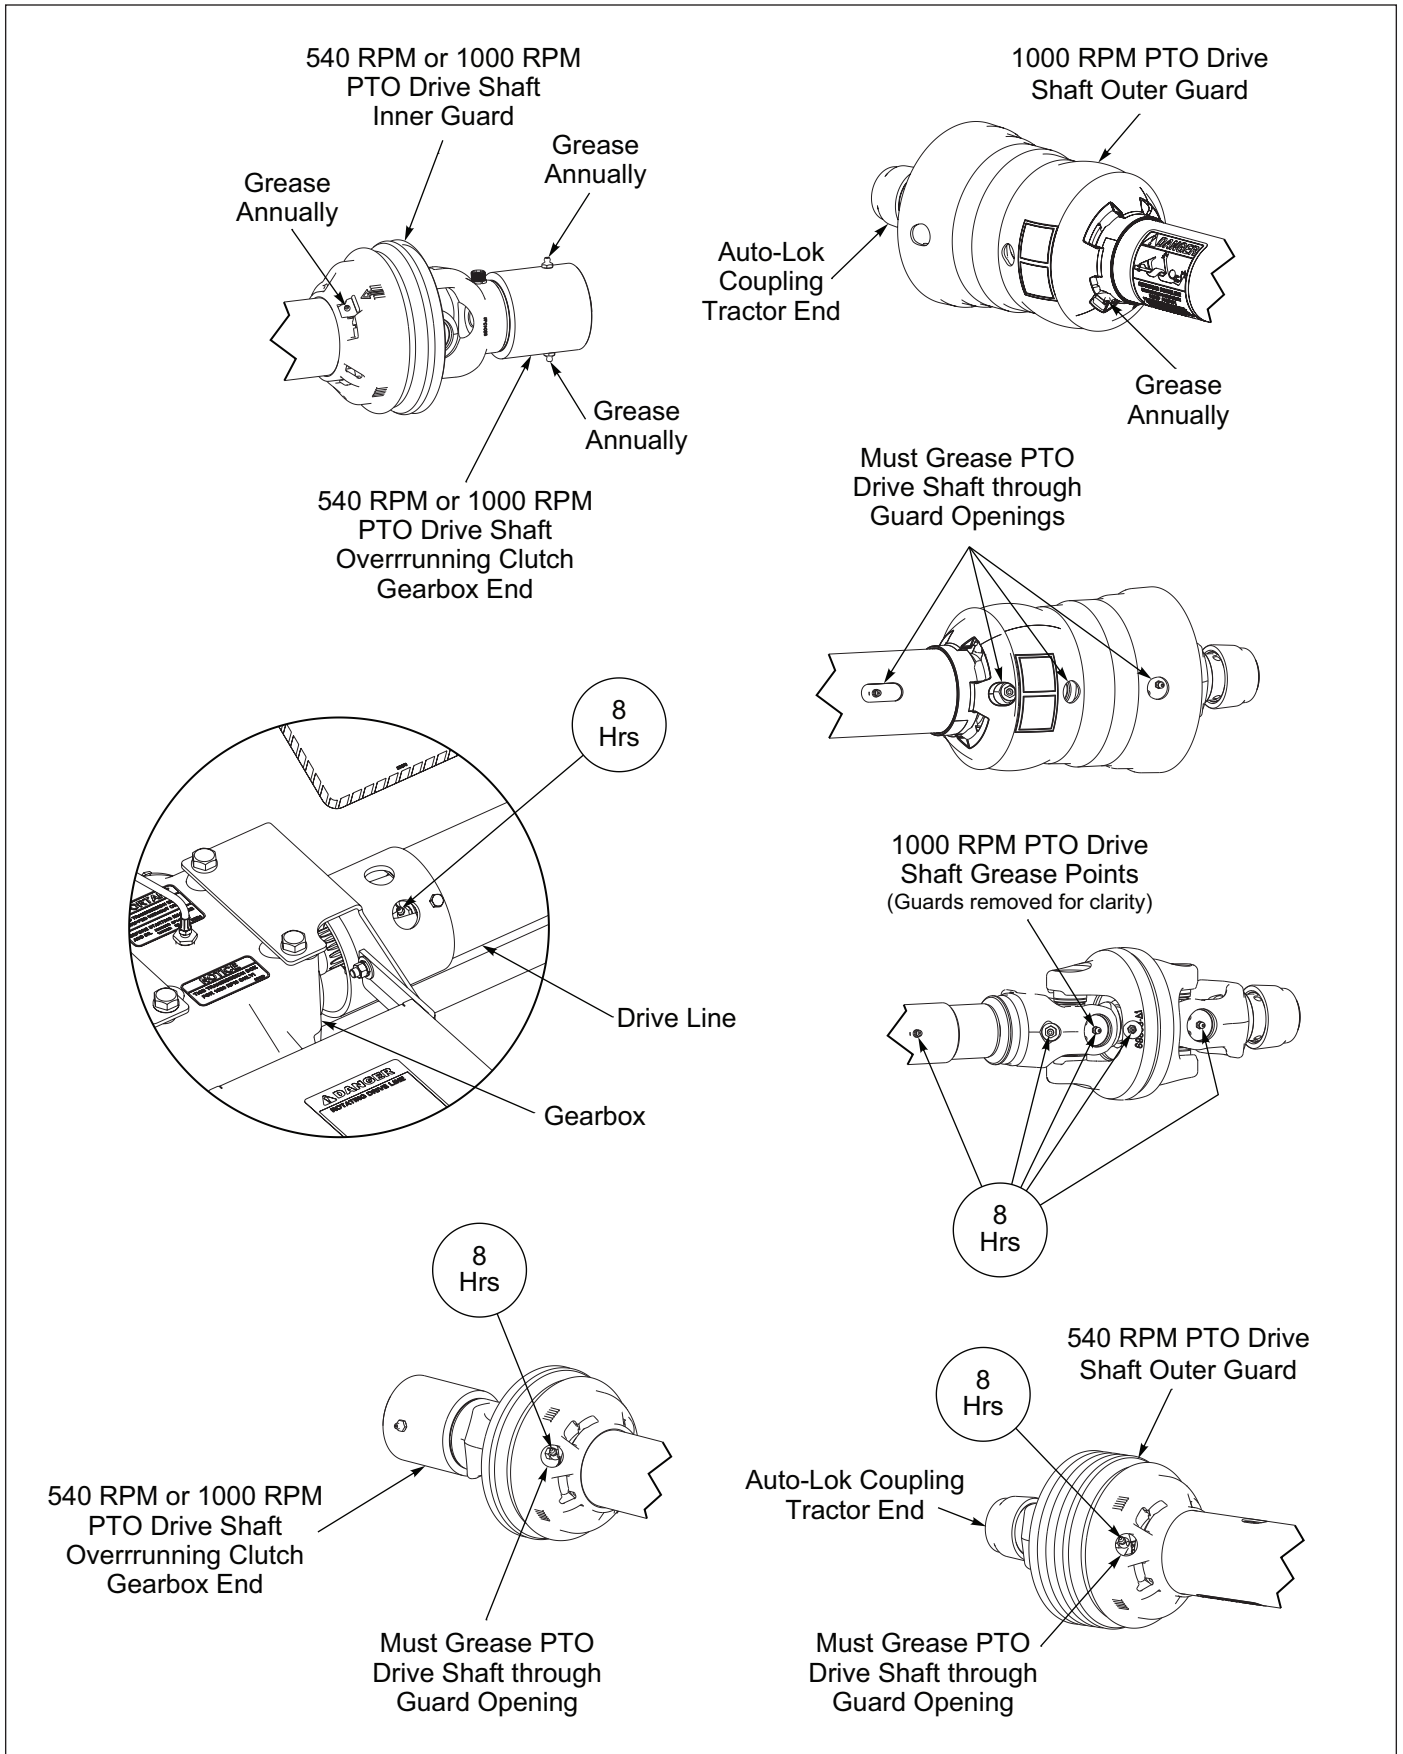

Figure 4-4: Driveline Lubrication Maintenance
- Shredder Drive Line has 2 grease points, grease through the Shields every 8 hours of operation. **See Figure 4-4.**